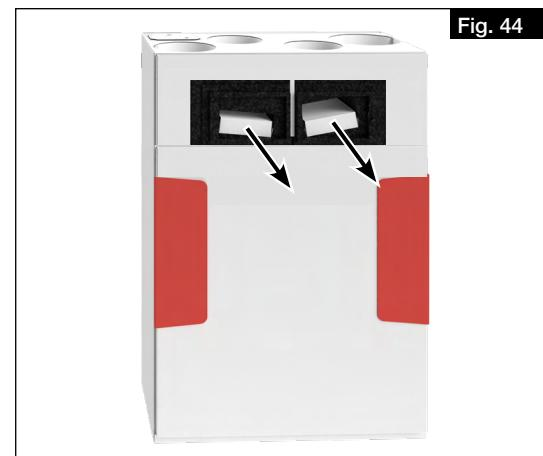

Fig. 44
2. Pull filter to the front and replace (see Fig. 44).